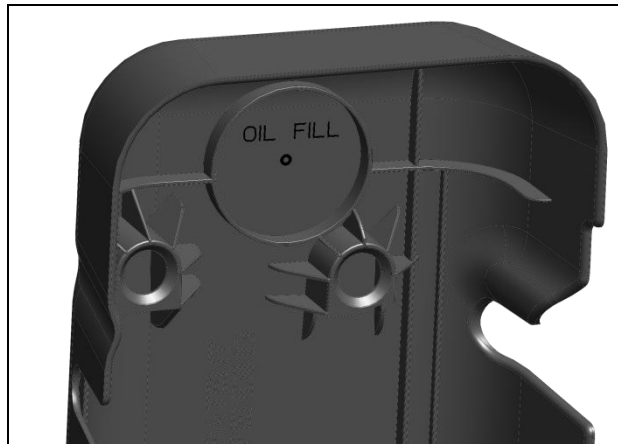

Figure 6
- B. Use an 1  $\frac{3}{4}$ " hole saw in the location marked on the inside of the covers intended for the passenger side. The center pilot is marked and should be first drilled with a 1/8" or smaller bit to better center the hole saw (Figure 6).